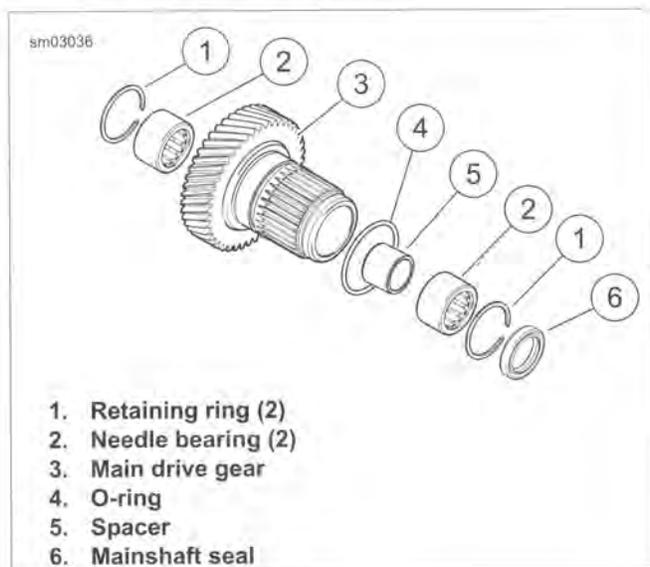

Figure 6-40. Main Drive Gear Assembly
1. See Figure 6-40. Remove mainshaft seal (6). Remove retaining rings (1), needle bearings (2) and spacer (5) from main drive gear (3). Discard retaining rings.
2. Remove and discard O-ring (4).
7. See Figure 6-40. Install **new** retaining rings (1).
8. Install **new** O-ring (4) into groove in main drive gear.